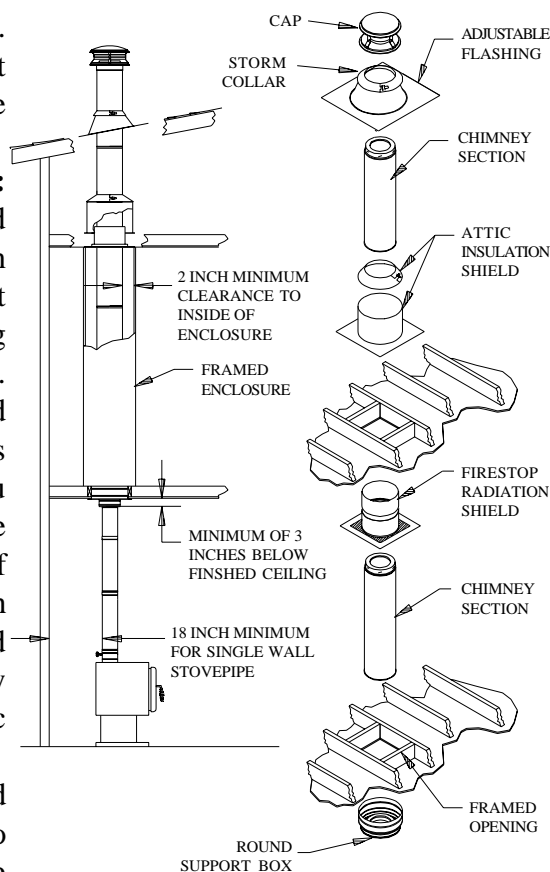

Fig 7
4. Frame Openings: Frame openings in each ceiling or floor above the Support Box (Fig 7). These openings are to hold the Firestop Radiation Shield and Attic Insulation Shield. Locate each opening by dropping a plumb bob to the four corners of the opening below. Maintain the minimum clearances and dimensions as specified in Table 2. If Elbows must be used to avoid an obstruction, refer to the Offset Elbow Installation section.
6. Install Firestop Radiation Shield: A Firestop Radiation Shield is required in multistory installations at each floor penetration above that where the Support Box is located. Example: in a multistory home where the appliance is on the ground floor (Support Box is in the 1st floor ceiling), you would need a Firestop Radiation Shield at the 2nd floor ceiling, and at the 3rd floor ceiling, etc., including where the chimney penetrates into the attic. Figure 7 shows a typical 2-story installation with an attic. Note: a Firestop Radiation Shield is not installed where the chimney penetrates through the roof. The Firestop Radiation Shield is installed on the underside of the ceiling/floor framing, with the cylindrical "tube" portion of the shield
d. Slip the Attic Insulation Shield over the Chimney and Firestop Radiation Shield until the base sits squarely on the framed opening (Fig 7 & 10).